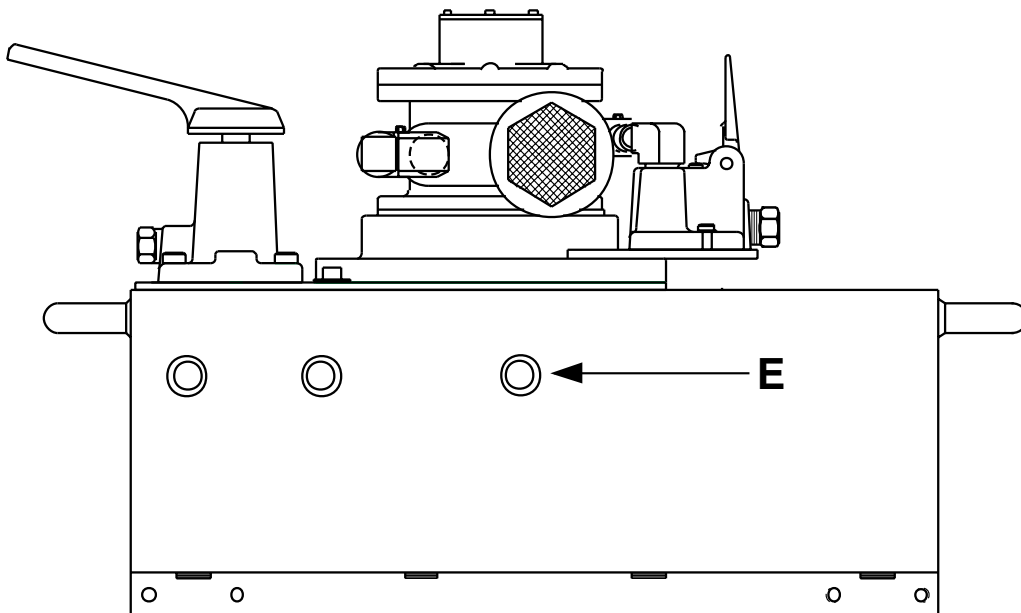

Figure 9
3. Remove the plug (E) from the side of the reservoir (see Figure 9).